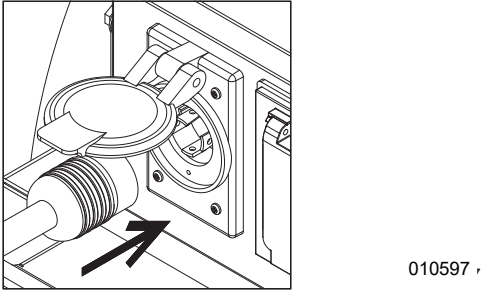

Figure 3-36. Utility Cord Installation to Unit
- See Figure 3-36. Install 120 V, NEMA 5-15 cord to unit power inlet port.